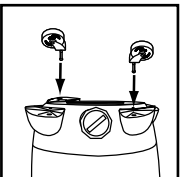

FIGURE 7
7. Insert casters into feet by placing stem of caster into holes. Apply pressure and twisting motion until casters snap into place. **FIGURE 7.**